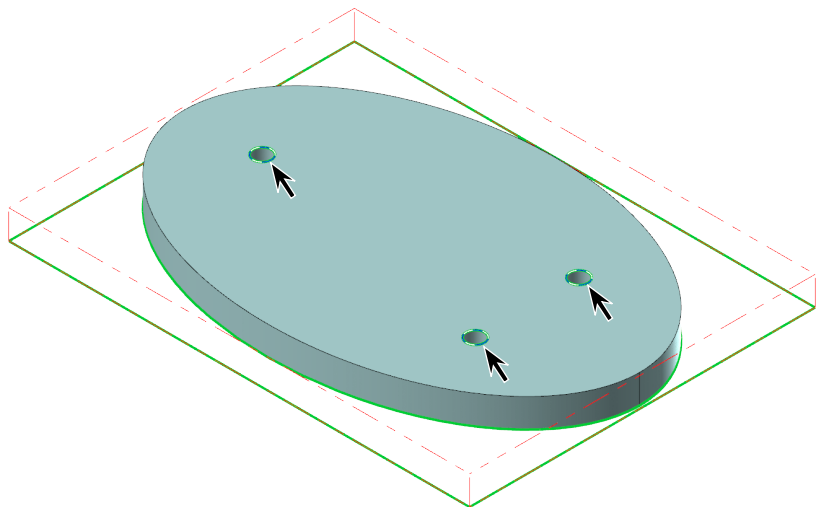

Fig. 94
Step 4. Click the **3 circles** and click **End Selection** (ENTER), **Fig. 94**.